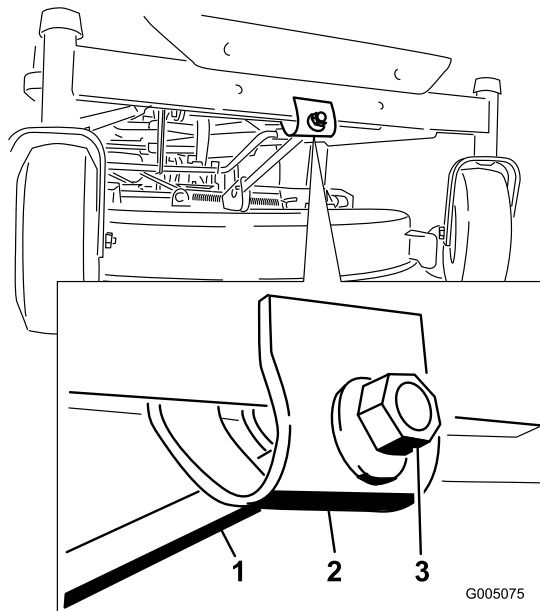

Figure 43
- To adjust the front-to-rear blade slope, rotate the adjustment nut in the front of the mower (Figure 43).